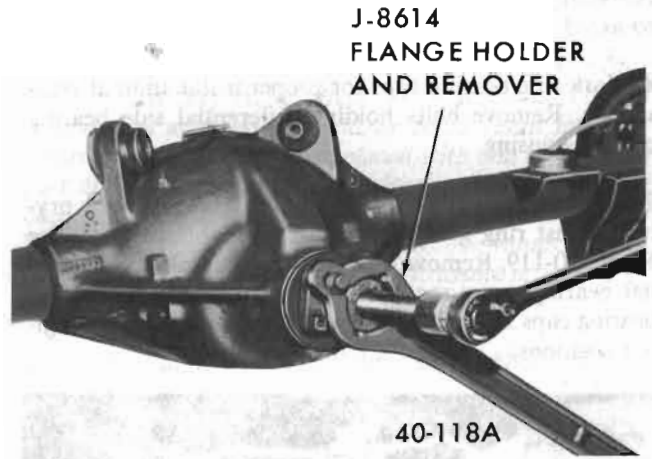

Figure 40-124 - Removing Pinion Flange
3. Pull pinion flange from pinion using Puller J-8614. To install puller, back out puller screw, insert puller through holder, and rotate 1/8 turn. See Figure 40-124.